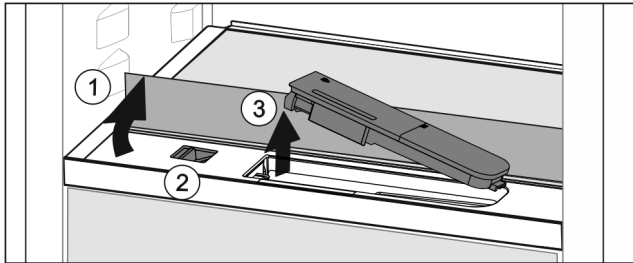

Fig. 59
- ▶ Lift the glass panel and fold to the back as far as it will go Fig. 59 (1).
- ▶ Slide the slider Fig. 59 (2) to the left.
- ▶ Remove the water tank Fig. 59 (3).